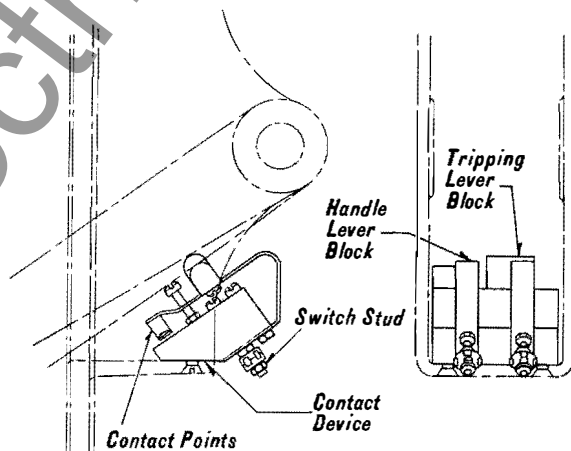

FIG. 7—BELL ALARM ATTACHMENT
**Bell Alarm Switch (Fig. 7)**—The bell alarm switch makes contact only when the handle is drawn down with the circuit-breaker open, as would be the case if tripped by any attachment. The upper block is depressed by the handle side bars and the lower block by the tripping lever. It should be examined occasionally to make sure that the contacts and all connections are secure.